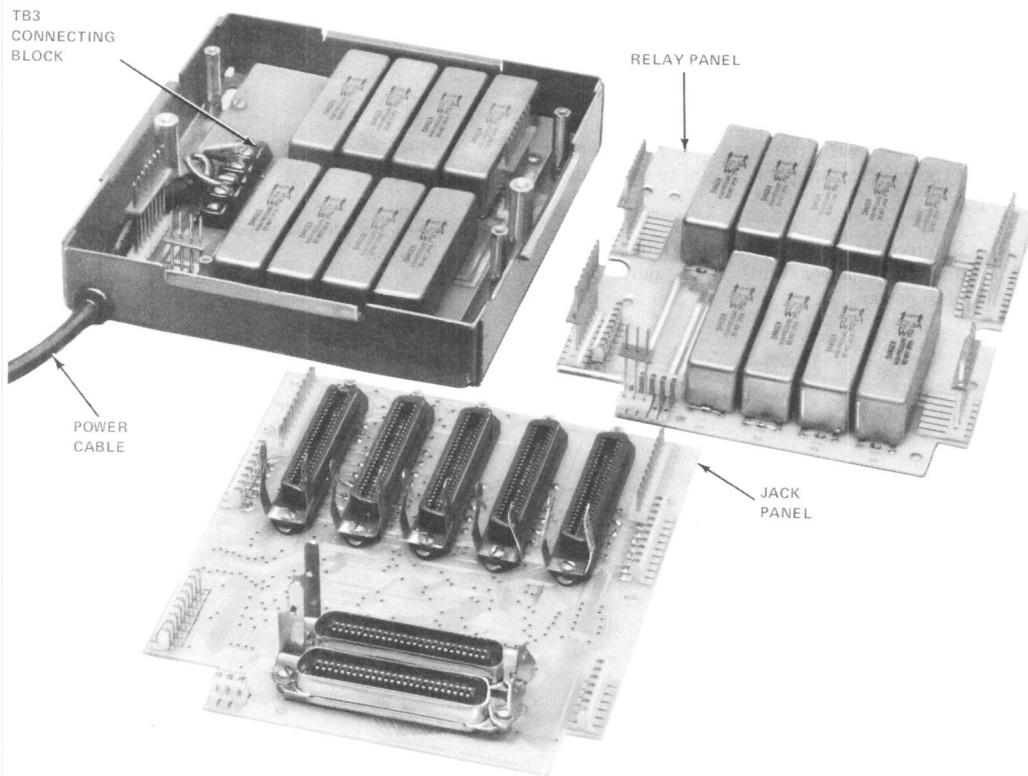

Fig. 3—828D Data Auxiliary Set Showing Connecting Block
4.04 Wire the power units to TB3 on the DAS as shown in Fig. 3 and 4. Do not connect the power units to the ac power source at this time.